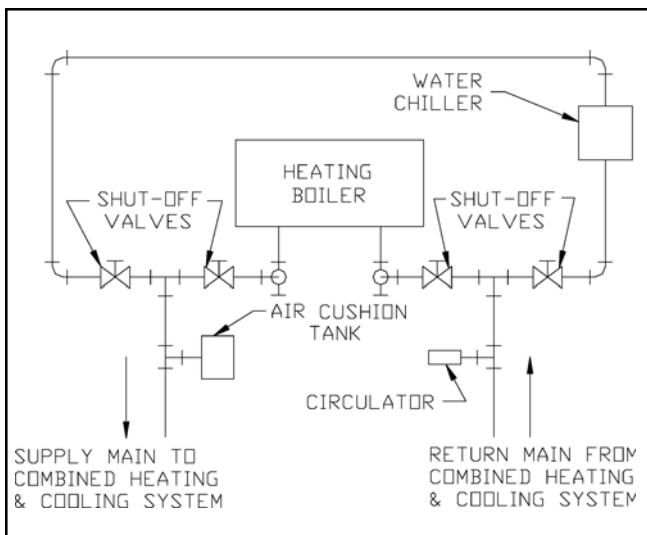

Figure 24: Recommended Piping for Combination Heating & Cooling (Refrigeration) System
1. If boiler is used in connection with refrigeration systems, boiler must be installed with chilled medium piped in parallel with heating boiler using appropriate valves to prevent chilled medium from entering boiler. See Figure 24. Also consult I=B=R Installation and Piping Guides.